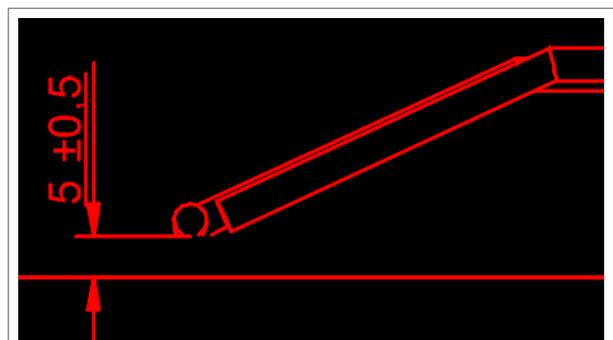

Figure 28 - Distance between the electrode and the burner
- a. The distance between the electrode and the burner should be  $5.0 (\pm 0.5)$  mm (figure 28).